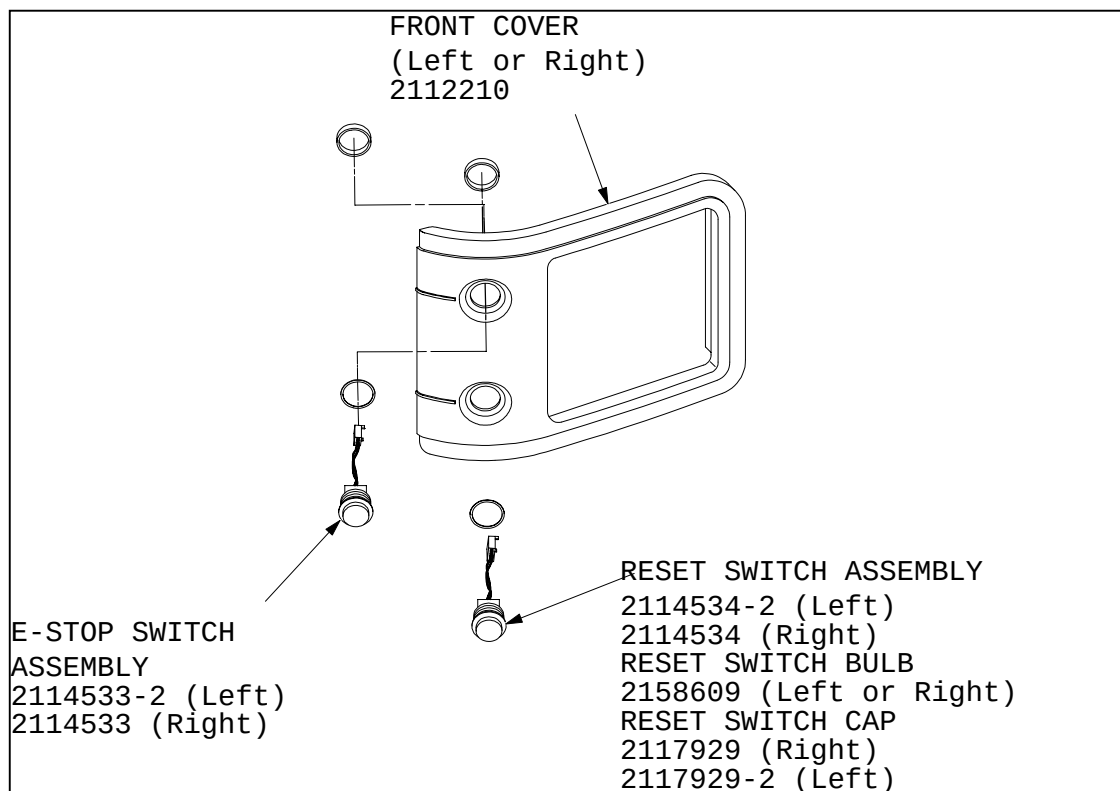

Figure 3 – Gantry Control Panel Assembly
8. Refer to figure 3, below. Remove reset switch cap (part number 2114534 (right side) or 2114534-2 (left side)).